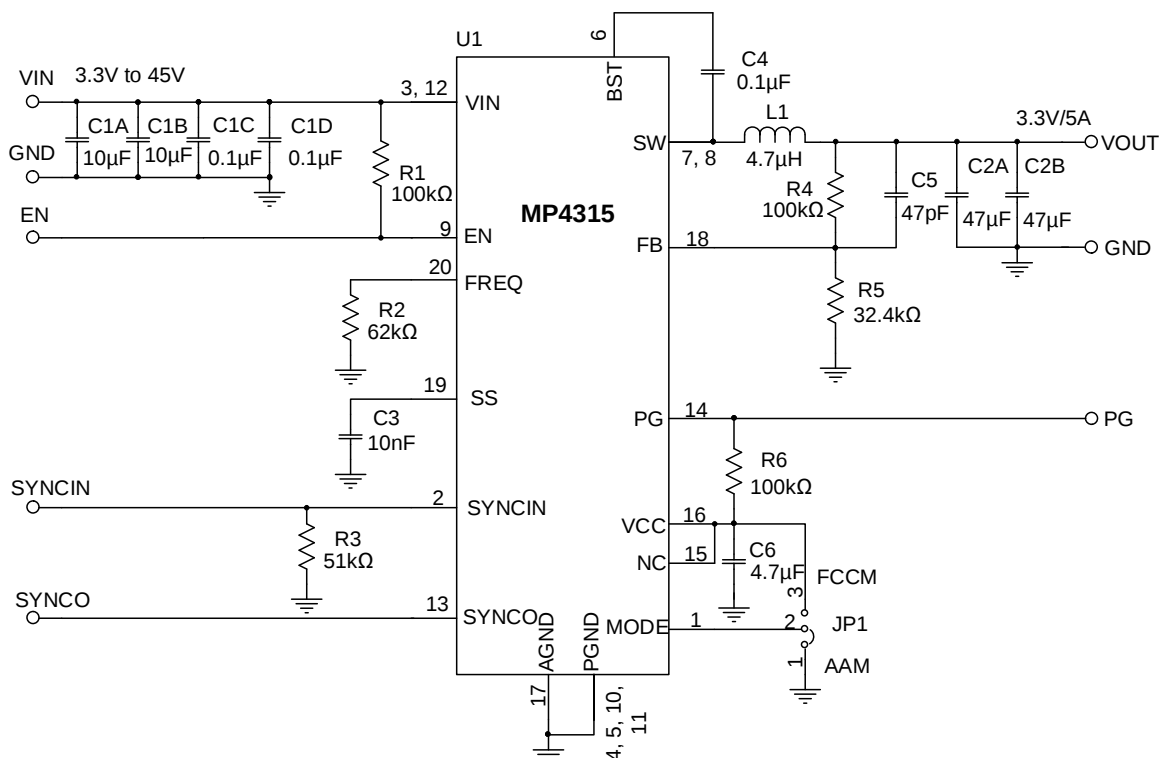

Figure 10: Typical Application Circuit ($V_{OUT} = 3.3V$, $f_{SW} = 470kHz$)
- 10) The recommended PCB layout is based on Figure 10 on page 31.